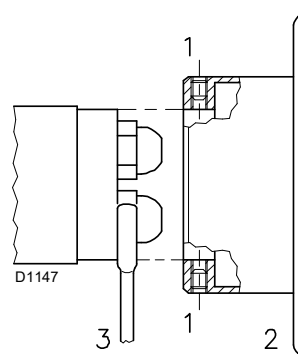

Fig. 13
- fitting the wrench through the central hole in the flame stability disk or loosen screws 1)(Fig. 13);
- remove disk 2)(Fig. 13) and replace the nozzles using the wrench 3).